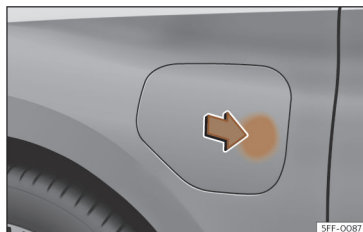

Fig. 60 Opening the charging socket cover.
- Press the battery's charging socket cover in the area of the arrow to open it >>> **Fig. 60.**